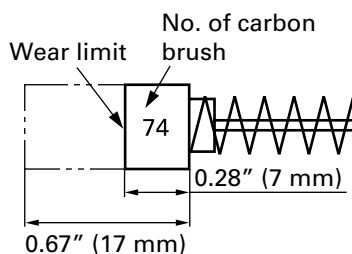

Fig. 11
3. Inspecting the carbon brushes (Fig. 11)
**NOTE:** Use HITACHI carbon brush No. 74 indicated in Fig. 11.